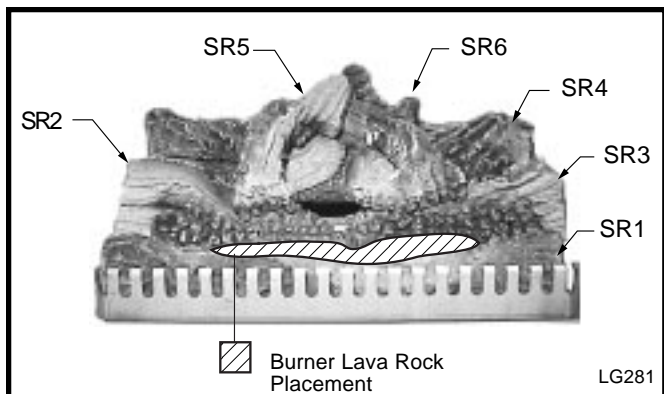

Fig. 33 RFSDV42 log and burner lava rock placement.
RFSDV42 (Fig. 33)
7. Place burner lava rock on top of burner. (Fig. 33)